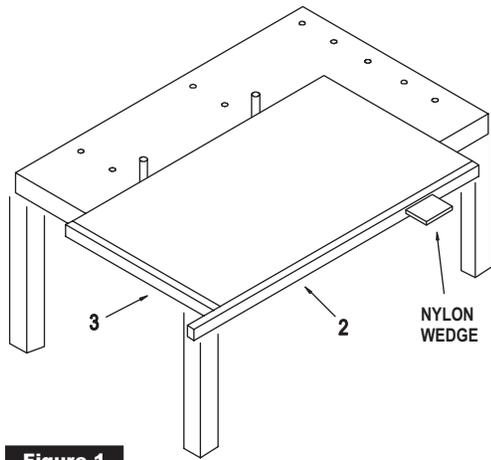

Figure 1
Note: Assembly of a hinge-left door is shown in Figure 1. For a hinge-right door, place bottom rail assembly at opposite end.
1. Lay glass flat, smooth side up on assembly table (Figure 1) and bracing glass on far side as shown so hinge rail can be driven into place. Apply hinge rail glazing channel (1) to edge of glass nearest you. Start vinyl 5/8" up from the bottom of the glass and cut flush with the top of glass.